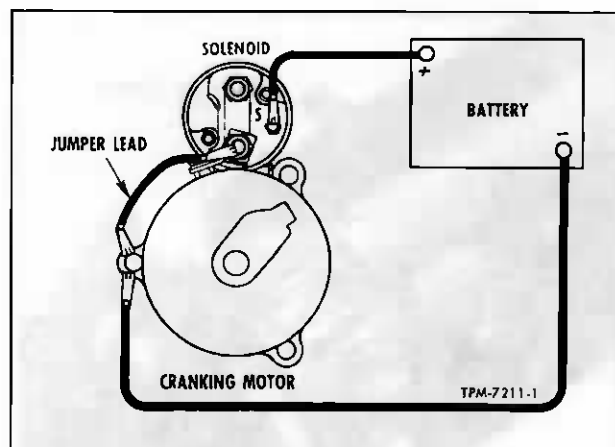

Figure 9—Test Hook-Up for Checking Pinion Clearance
1. To check the pinion clearance, connect a 12-volt battery from solenoid switch terminal to starter frame (fig. 9).
To prevent starter from motoring, connect a heavy jumper from solenoid "Motor" terminal to starter frame (fig. 9).